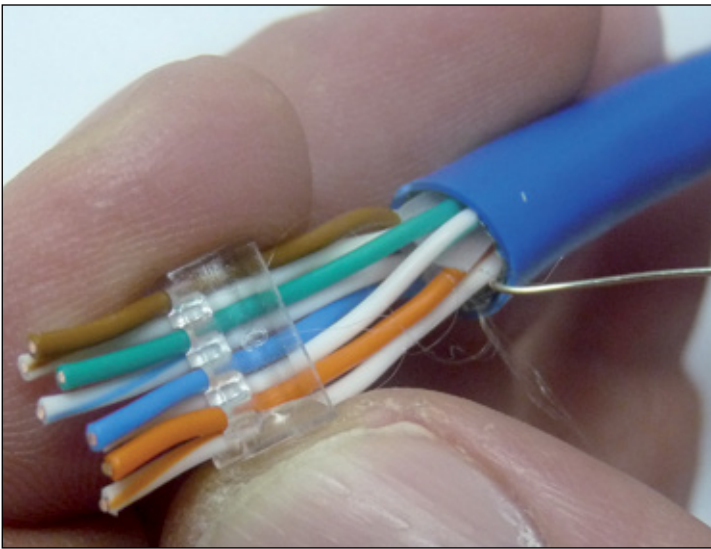

Figure 14
- 11 Proceed to slide the **Organizer Insert** until it touches the border the jacket as shown in the **Figures 14** and **15**.